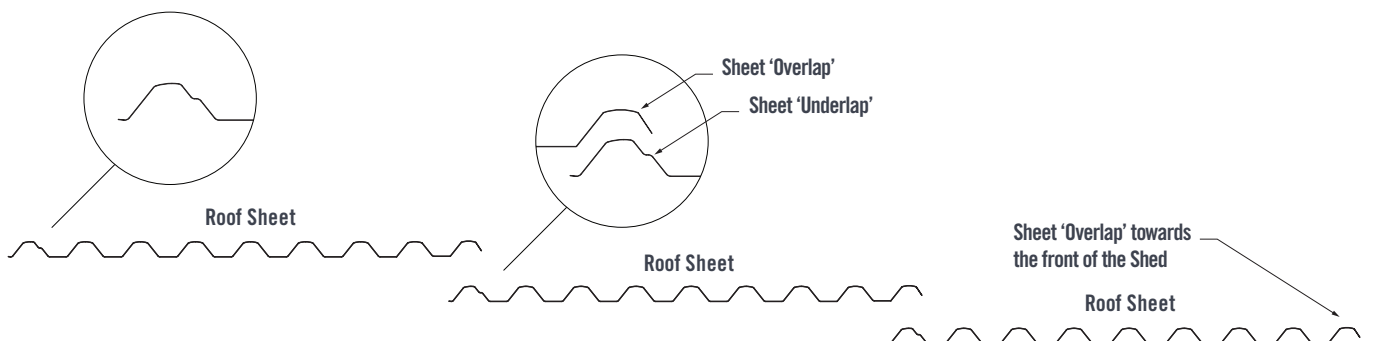
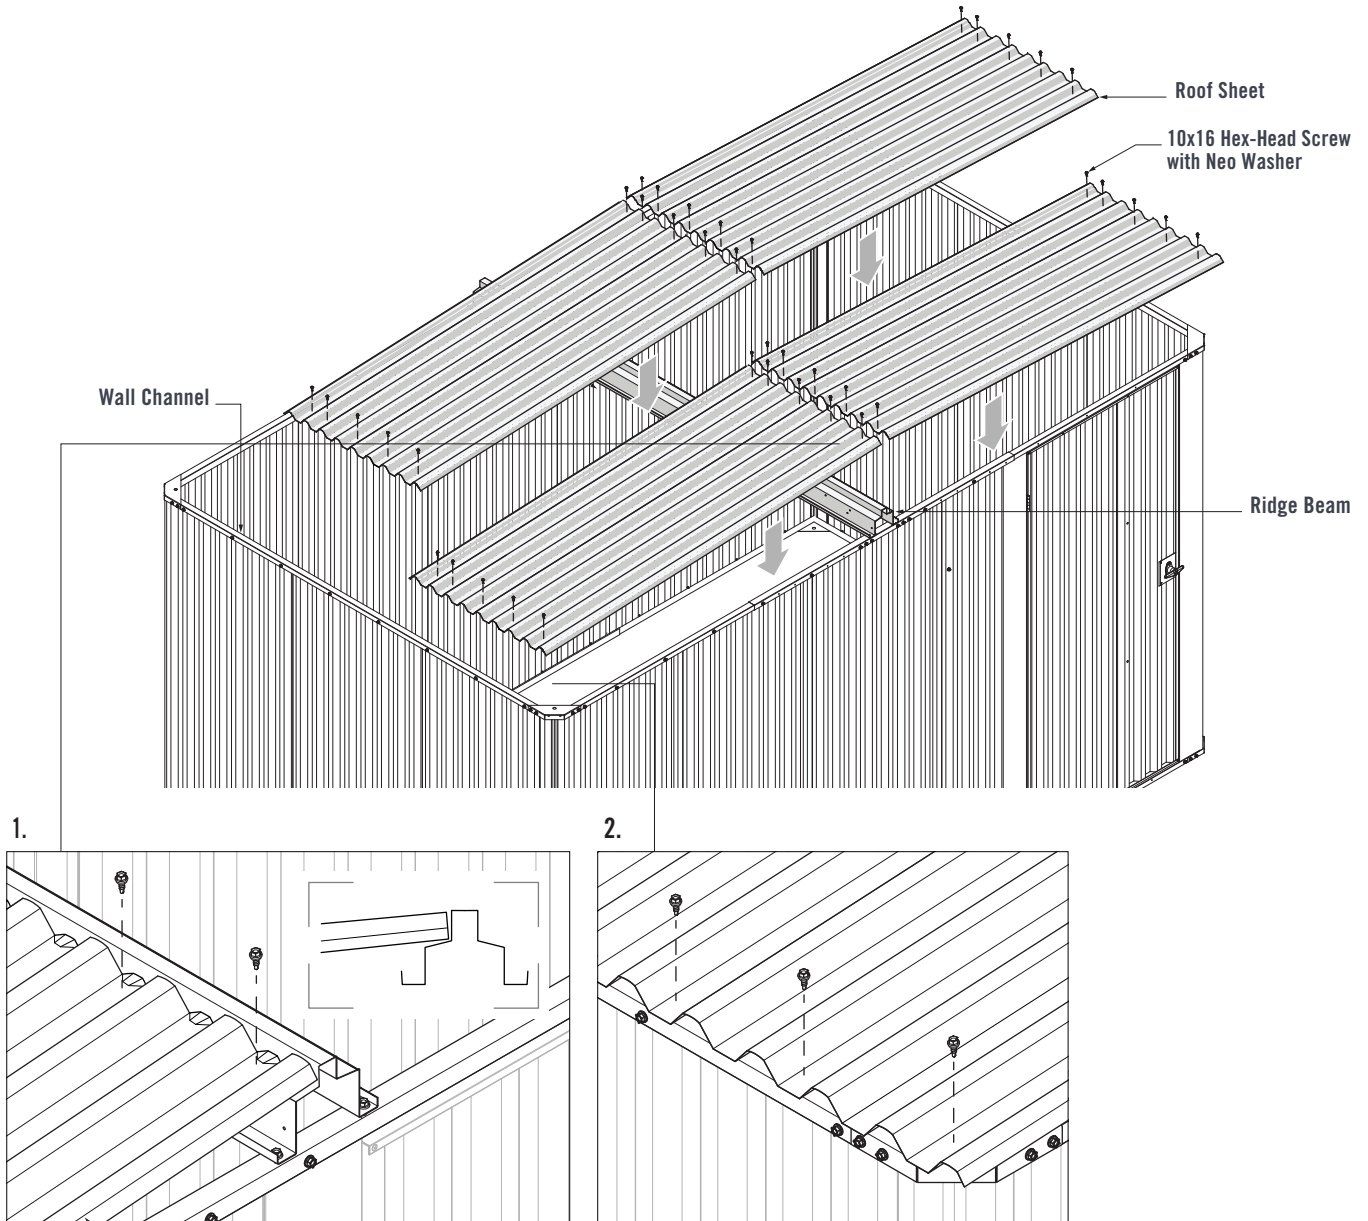
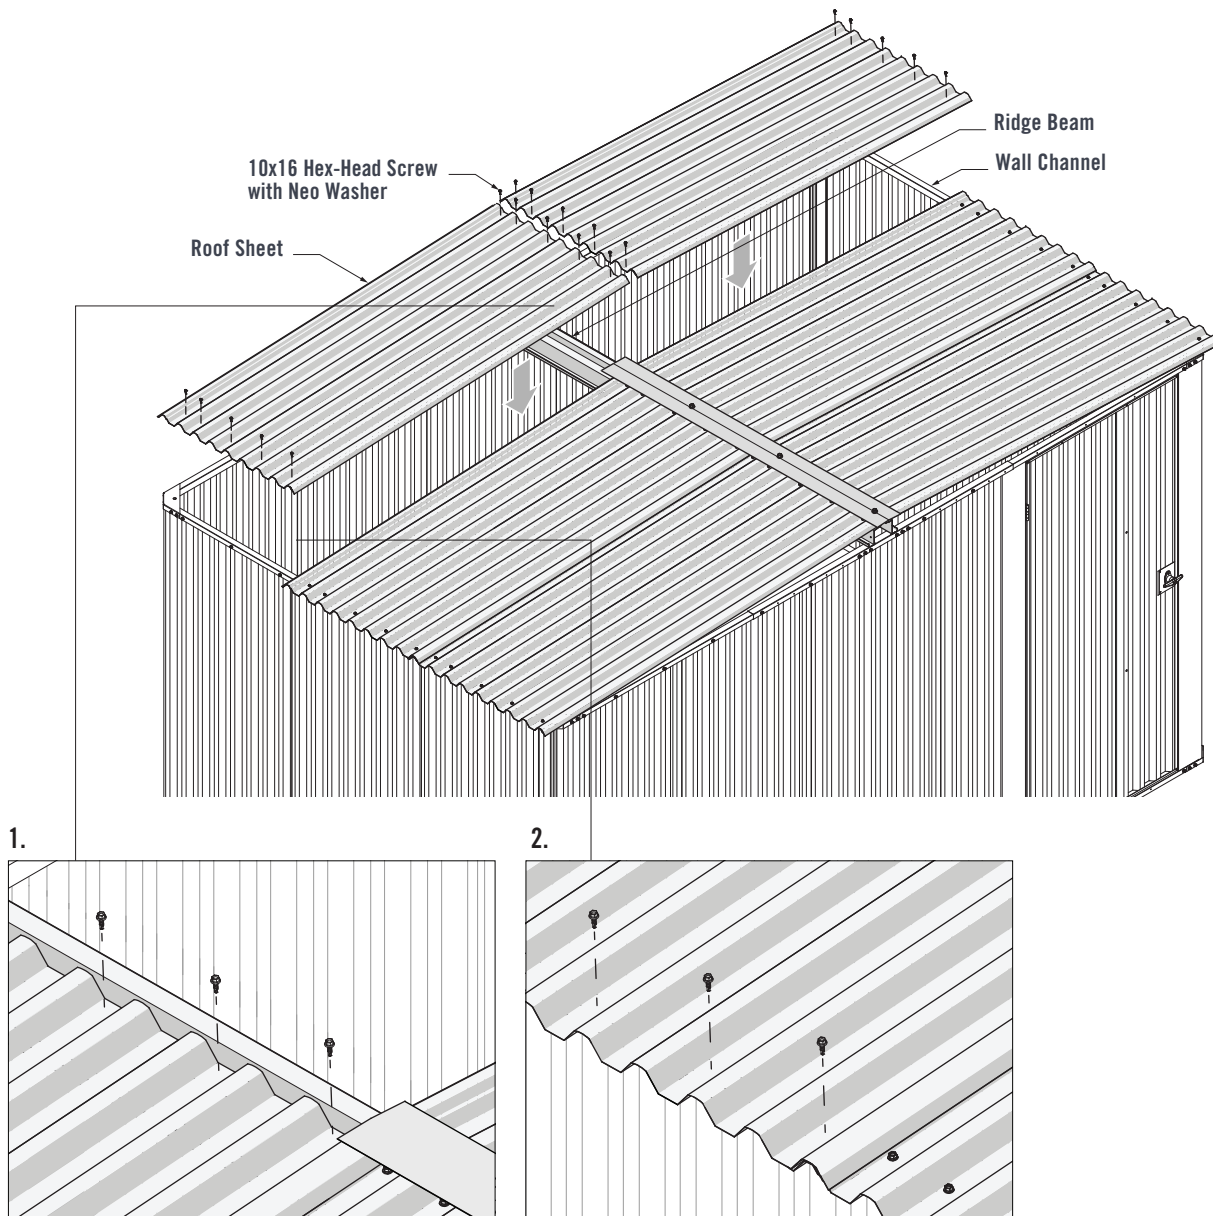

FIGURE 8.2
FIGURE 8.4
FIGURE 8.6
Refer to the sheet layout below when installing Roof Sheets (Figure 8.2).
Refer to Sheet layout in Figure 8.2. Lay a Roof Sheet onto the Ridge Beam and Wall Channel, ensuring the overlap end of the Roof Sheet is facing the front of the shed (Figure 8.4).
1. Ensure the end of the Roof Sheet is in-line with the end of the Ridge Beam. Fasten five 10x16 Hex-Head Screws with Neo Washers through the pans of the Roof Sheet and into the Ridge Beam (Figure 8.4).
2. Fasten five 10x16 Hex-Head Screws with Neo Washers through the pans of the Roof Sheet and into the Wall Channel (Figure 8.4).
Refer to Sheet layout in Figure 8.2. Lay the next Roof Sheet onto the Ridge Beam and Wall Channel Assembly, ensuring the overlap end of the Roof Sheet is facing the front of the shed (Figure 8.6).
1. Ensure the Roof Sheet is hard against the step of the Ridge Beam. Fasten five 10x16 Hex-Head Screws with Neo Washers through the pans of the Roof Sheet and into the Ridge Beam (Figure 8.6).
2. Fasten five 10x16 Hex-Head Screws with Neo Washers through the pans of the Roof Sheet and into the Wall Channel Assembly (Figure 8.6).